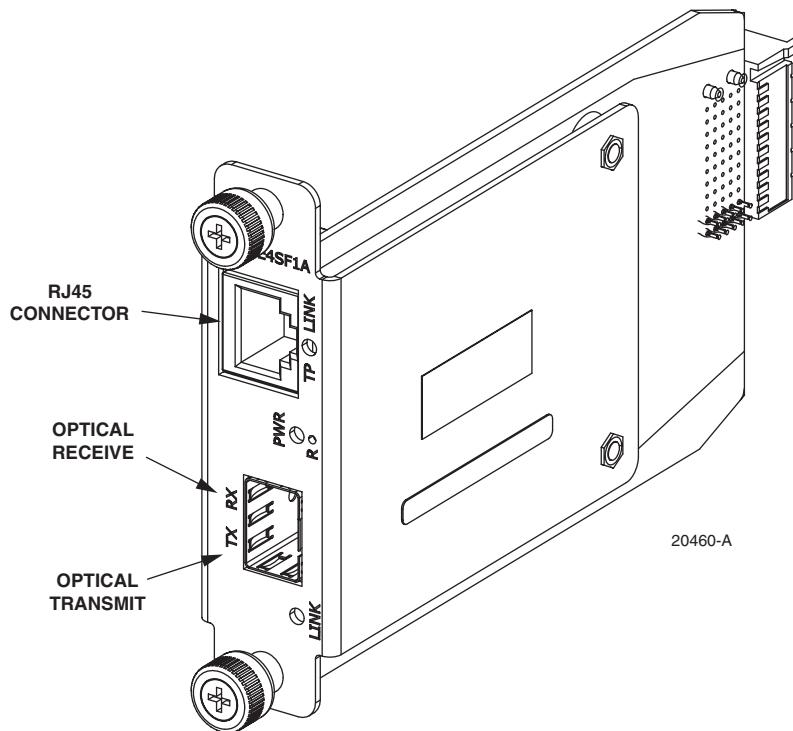

Figure 4. 10/100 Mb/s Optenet Media Converter Module Connections
7. Attach the fiber cable “TX” and “RX” connectors to the corresponding receptacles on the media converter. See Figure 4.